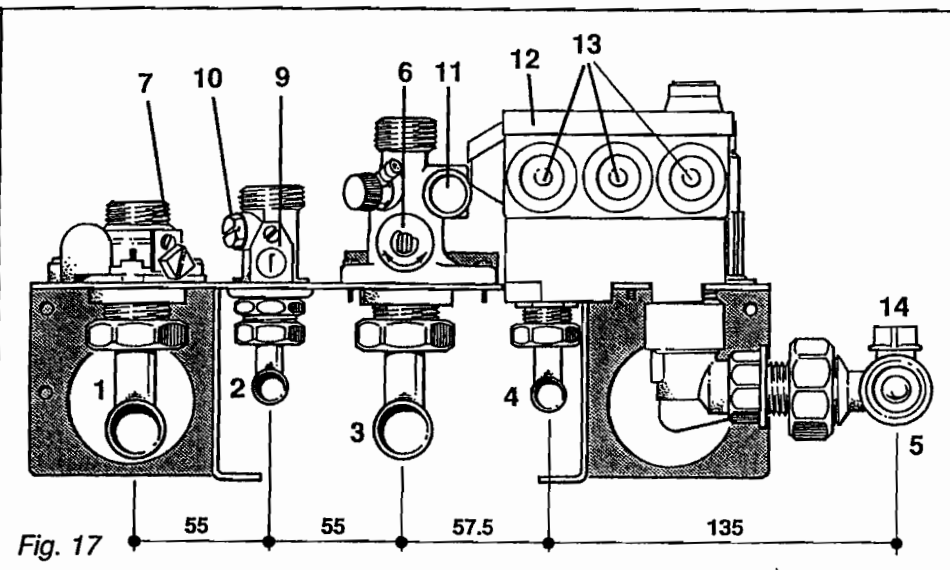

Fig. 17
**6.11.2** The connecting plate incorporates the following for the installer's/service engineer's convenience - refer to Fig 17.
6.11.6 Connect water pipes to the connecting plate using the four connection elbows provided, as shown in Fig.17.